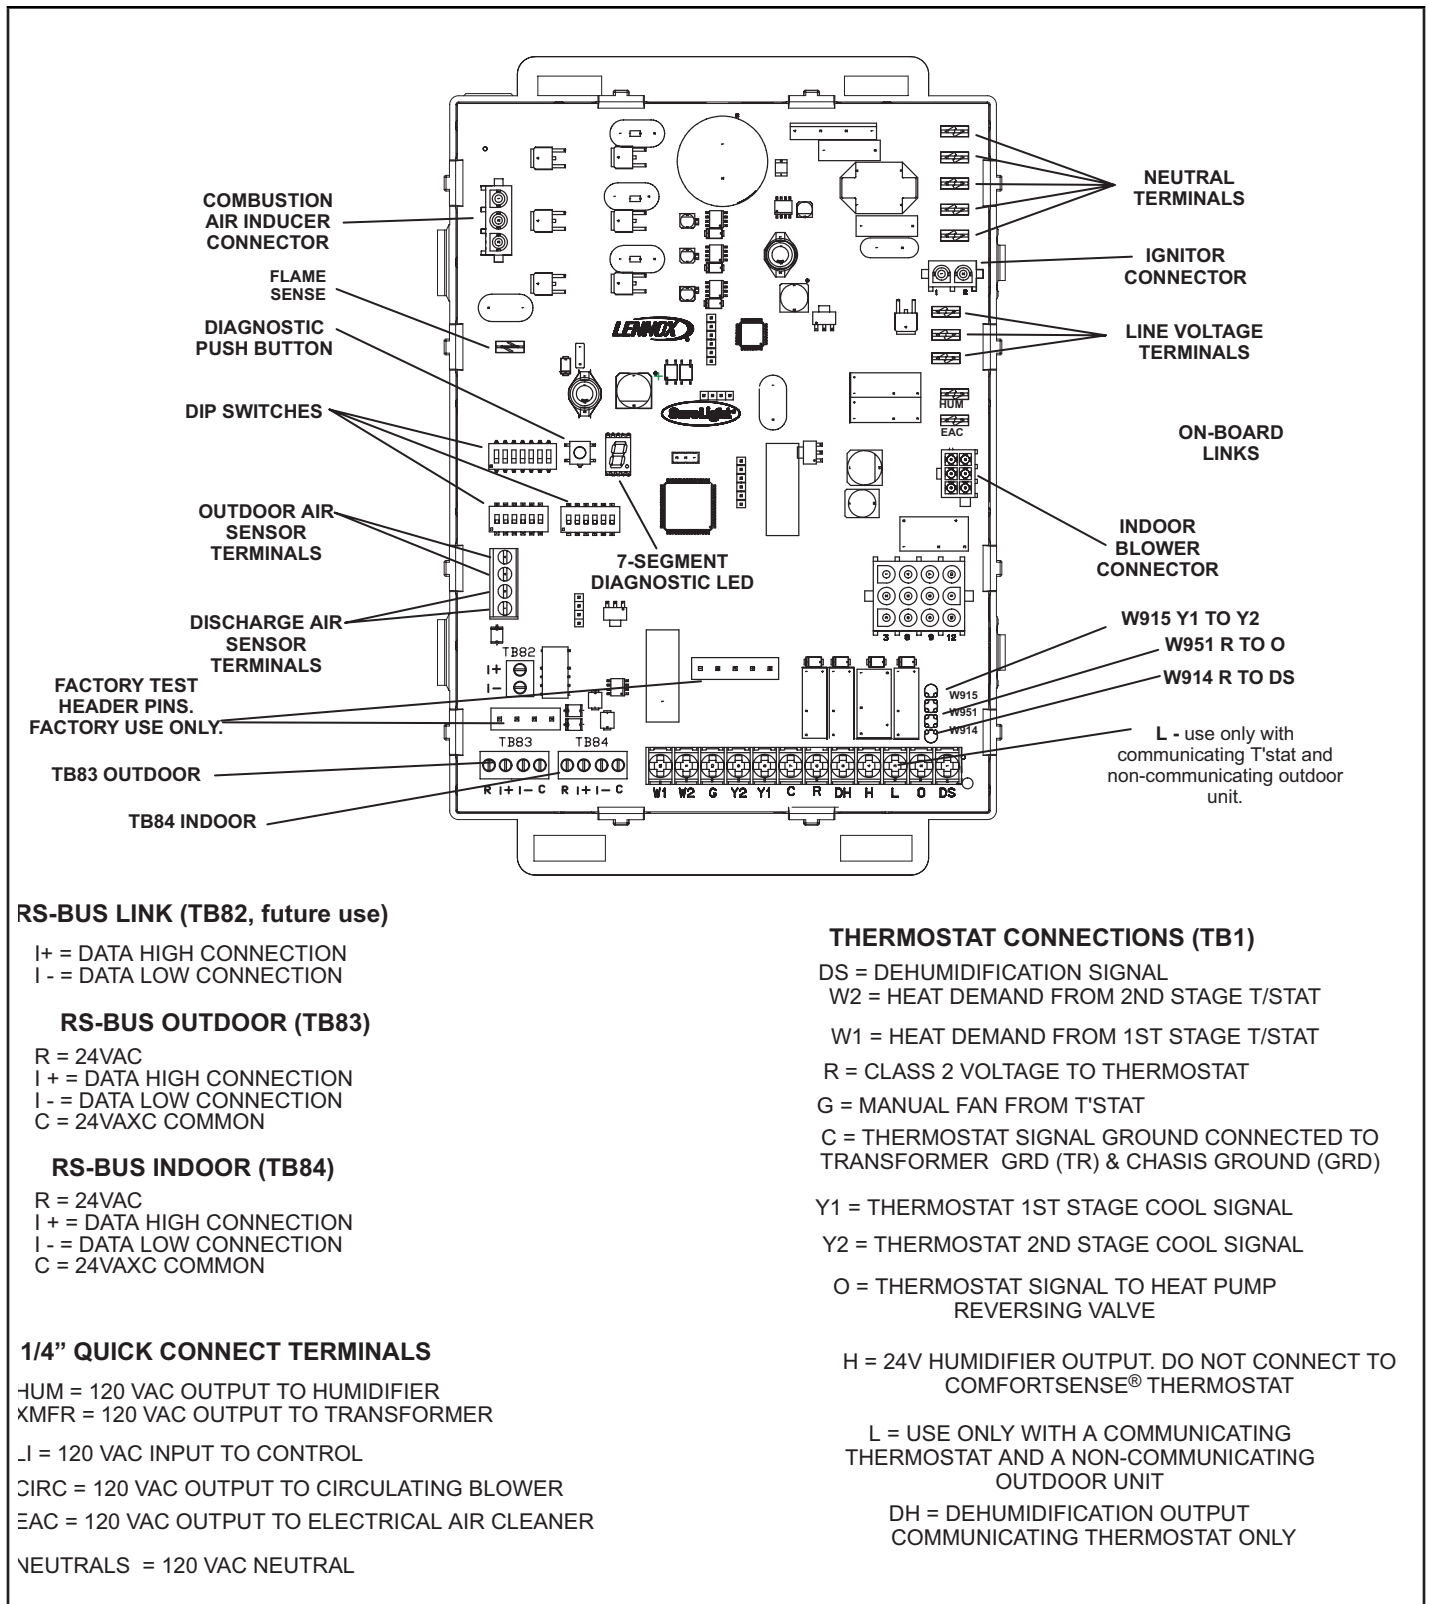
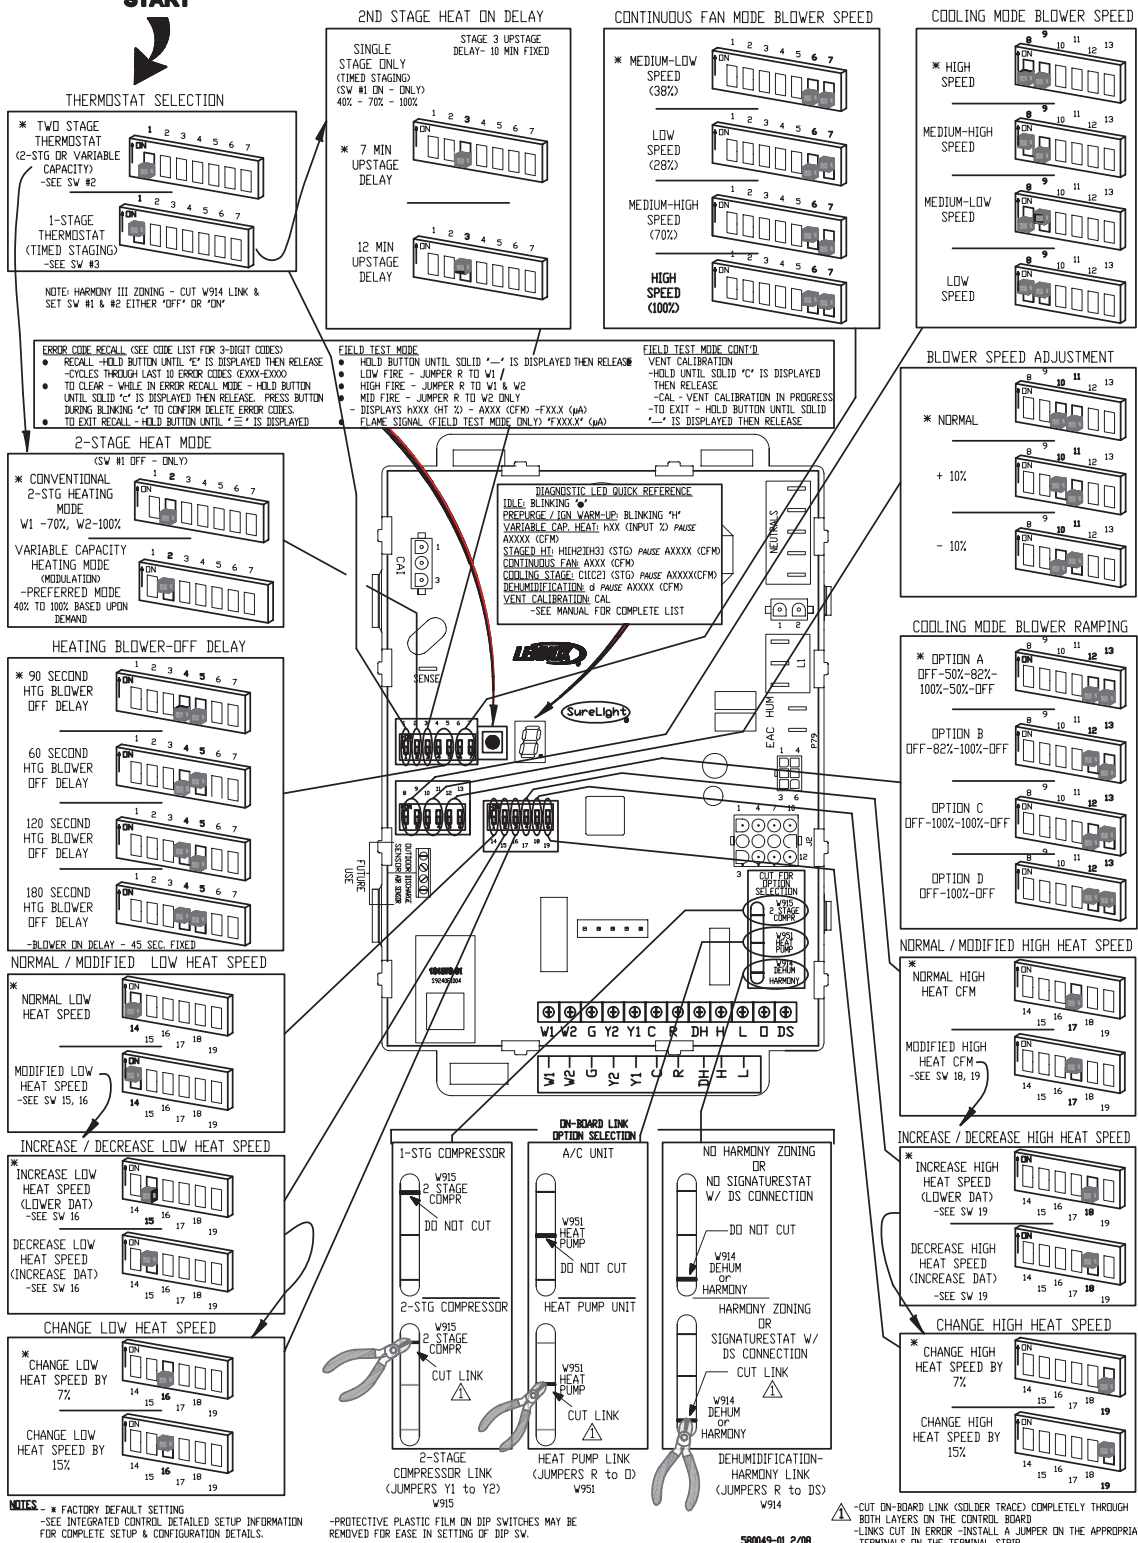

FIGURE 4
FIGURE 5
SLP99DFV units are equipped with the Lennox SureLight® variable-capacity integrated control. This control can be used with a communicating thermostat as part of a communicating system. The control can also operate with a conventional single or two-stage thermostat. The system consists of an ignition / blower control (FIGURE 4 and FIGURE 5) with control pin designations in TABLE 1, TABLE 2 and ignitor. The control provides gas ignition, safety checks and indoor blower control with variable capacity rate gas heating. The furnace combustion air inducer, gas valve and indoor blower are controlled in response to various system inputs such as thermostat signal, pressure and limit switch signal and flame signal. The control features a seven-segment LED display, indicating furnace status (including indoor blower) and error codes. The LED flashes in single digits. For example using table 14 under LIMIT CODE, an "E" followed by "2" followed by "5" followed by "0", the limit switch circuit is open. The control also has two 120 volt accessory terminals (used for a humidifier and electronic air cleaner) rated at (1) one amp each.
The control can be made to operate in three modes: variable capacity, three-stage timed or two-stage. The variable capacity and two-stage modes are only operational with a two-stage thermostat. The thermostat selection is made using DIP switches one and / or two (figure 4) and must be positioned for the particular application.
Heating Operation DIP Switch Settings -- FIGURE 4 Switch 1 -- Thermostat Selection -- This unit may be used with either a single-stage or two-stage thermostat. The thermostat selection is made using a DIP switch which must be properly positioned for the particular application. The DIP switch is factory-positioned for use with a two-stage thermostat. If a single-stage thermostat is to be used, the DIP switch must be repositioned. See TABLE 3.